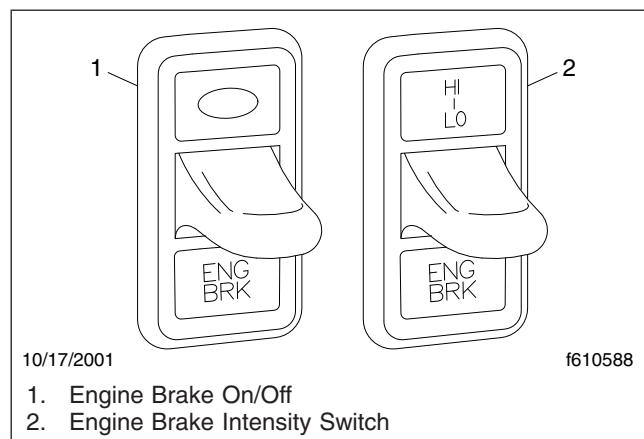

Fig. 7.18, Engine Brake Switches
- The On/Off switch (ENG BRK), is used to turn the engine brake on and off. See Fig. 7.18. When the engine brake is on, an amber light will illuminate behind the switch.
2. Press the On/Off switch to toggle the engine brake on. See Fig. 7.18. The engine brake will engage at the rate last set on the brake intensity switch.